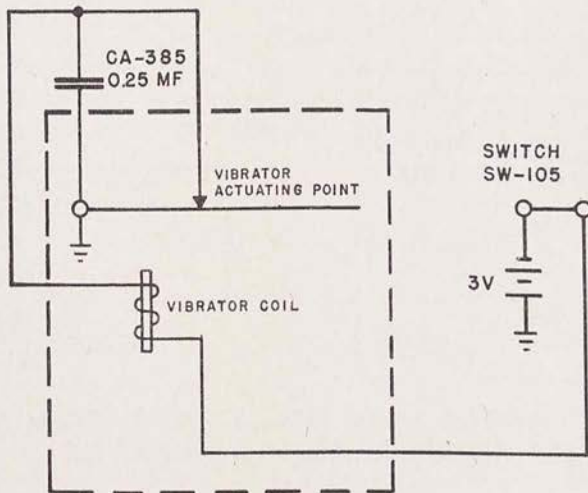
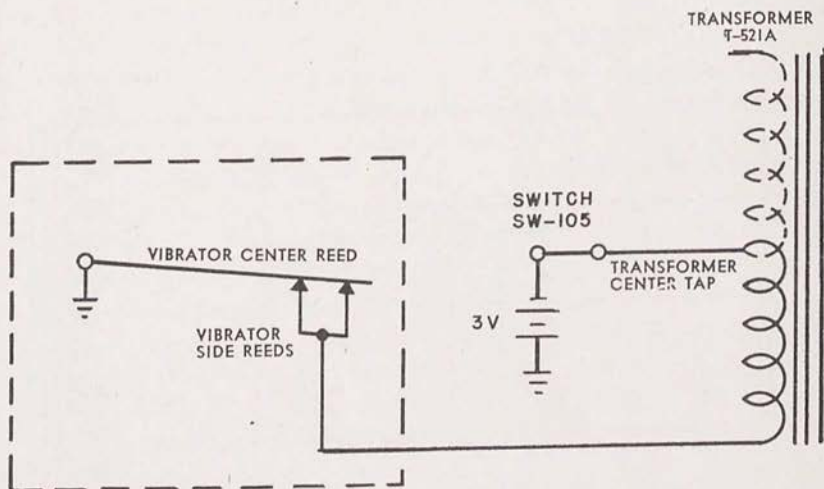

FIG. 3 CONVERTER M-222, FUNCTIONAL DIAGRAM OF VIBRATOR ACTUATING POINT CIRCUIT.
FIG. 4 CONVERTER M-222, FUNCTIONAL DIAGRAM OF VIBRATOR CIRCUIT, FIRST HALF CYCLE
a. *Input circuit.*—The input circuit consists of the vibrator, (S-814-V), the tapped transformer primary, the ON-OFF Switch SW-105, and the actuating point Capacitor CA-385. Its operation is as follows: The input current flows through Switch SW-105, the vibrator coil, the vibrator actuating point, the vibrator center reed, and back to the source of supply. (See figure 3.) This starts the vibrator, causing the center reed to make contact with one set of side reeds. The actuating point Capacitor CA-385 quenches the arc formed by the opening of the actuating point. With one set of side reeds closed, current flows through the center tap of the transformer, one-half of the transformer winding, one set of the vibrator side reeds, the vibrator center reed, and back to the source of supply. (See figure 4.) On the other half cycle of the vibrator, an exactly similar circuit is traced through the other half of the transformer and the other set of side